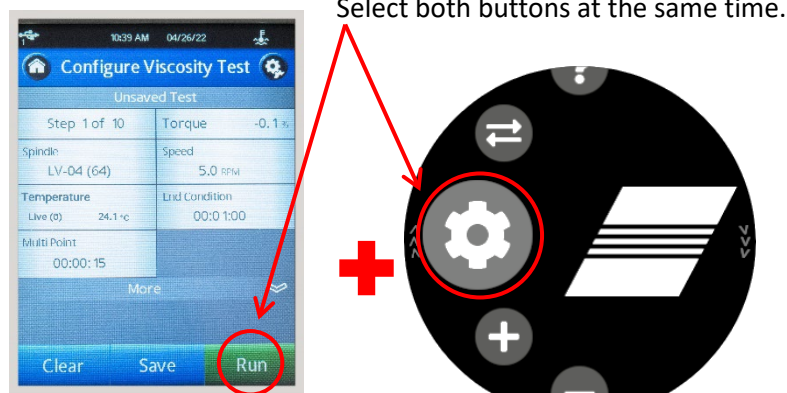

Figure 14: Begin Calibration
7. At the same time, press **Run** on the Head Unit and the **Calibration** button on the Base Unit. See Figure 14.